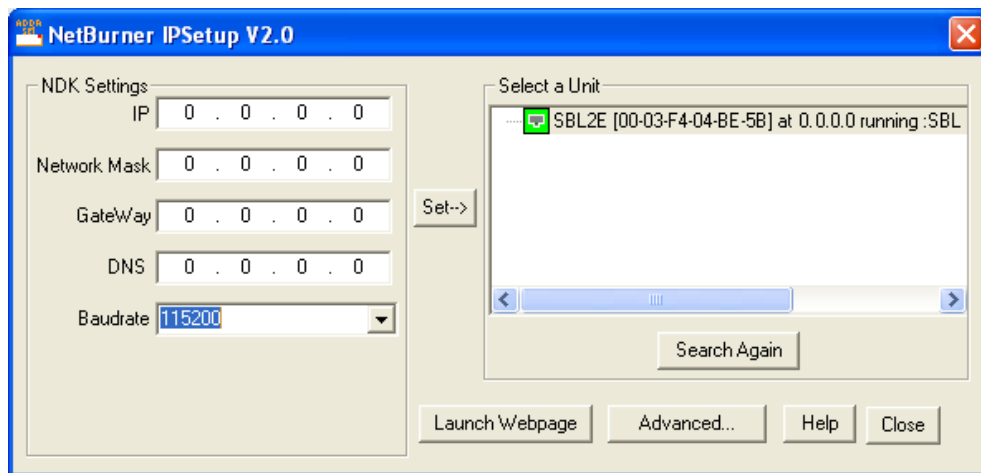

Figure 4 : NetBurner IPSetup
2. Ensure that the settings on your Serial configuration screen match those in figure 4 below.